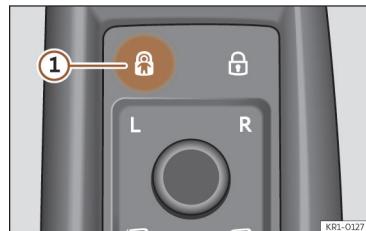

Fig. 76 On the driver's door: touch panel for the electric child lock.
- **Activation:** tap the touch panel >>> Fig. 76 ①.
The indicator lamp  on the touch control lights up yellow when the electric child lock is activated >>> Fig. 76④.